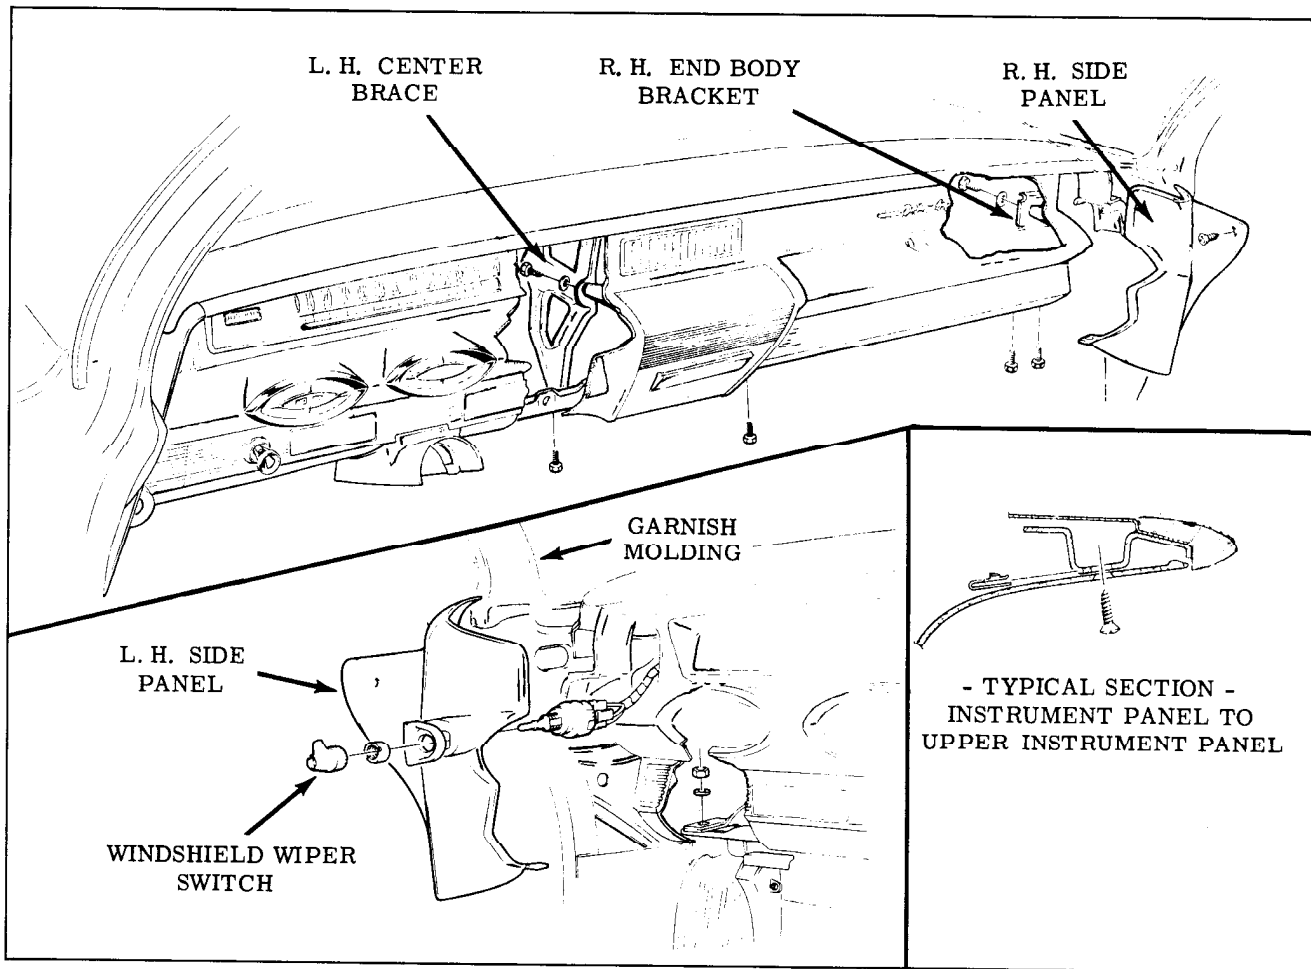

Fig. 15-1 Instrument Panel
The lower instrument panel section is a removable panel and is retained by bolts and sheet metal screws. (Fig. 15-1) All instruments and units can be removed without removing the lower instrument panel section.
4. Remove instrument panel attaching screws. (Fig. 15-1)